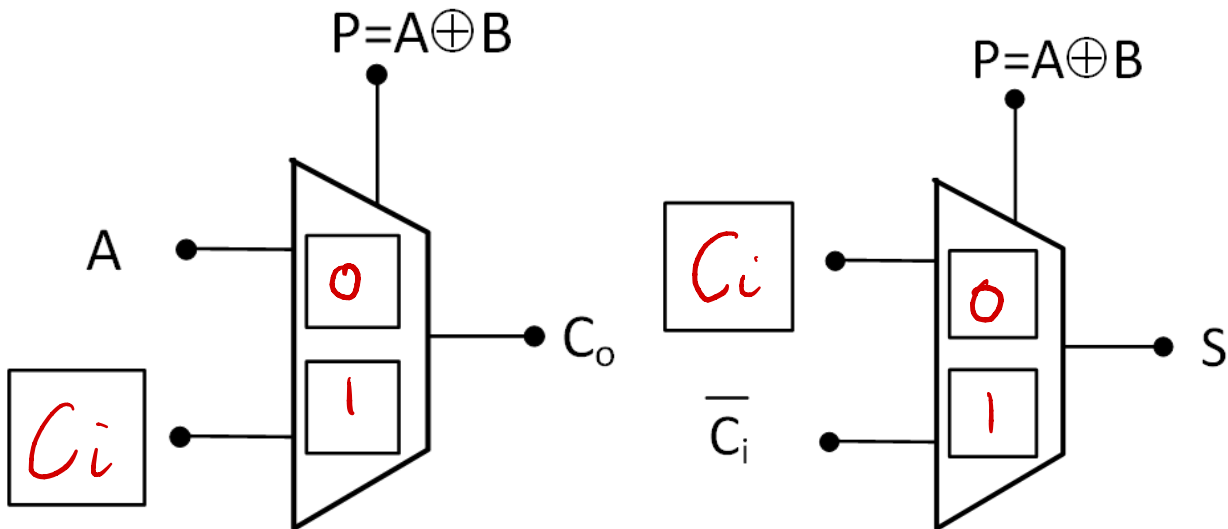

Figure 6
- a) (4 pts) A single-bit full adder, with inputs A, B and C_i and outputs C_o and S, is shown in Figure 6. In this case, the propagate signal P, is defined as $P = A \oplus B$. Please fill in the boxes with signals (A, B, C_i), or their complements, that would make the adder operate correctly. Also, please label the corresponding multiplexed inputs as 0 or 1.